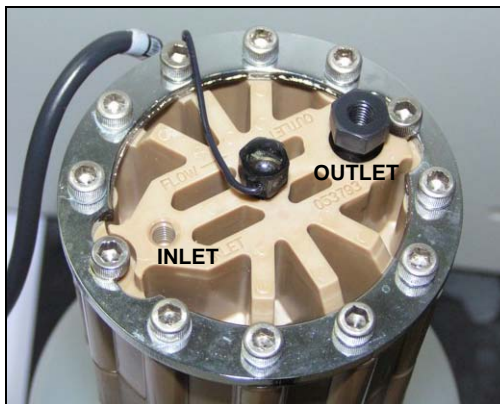

Figure 5-39. Dionex EluGen Cartridge Inlet and Outlet Ports
11. Orient the Dionex EluGen cartridge with the fittings facing up and remove the plugs from the Dionex EluGen cartridge **INLET** and **OUTLET** ports (see Figure 5-39).